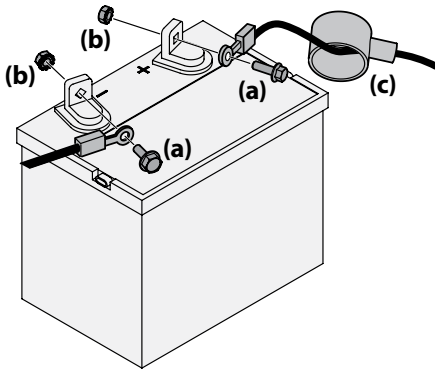

Figure 2-18
1. Remove the plastic cover, if present, from the positive battery terminal and attach the red cable to the positive battery terminal (+) with the bolt (a) and hex nut (b). See Figure 2-18.
2. Remove the plastic cover, if present, from the negative battery terminal and attach the black cable to the negative battery terminal (-) with the bolt (a) and hex nut (b). See Figure 2-18.